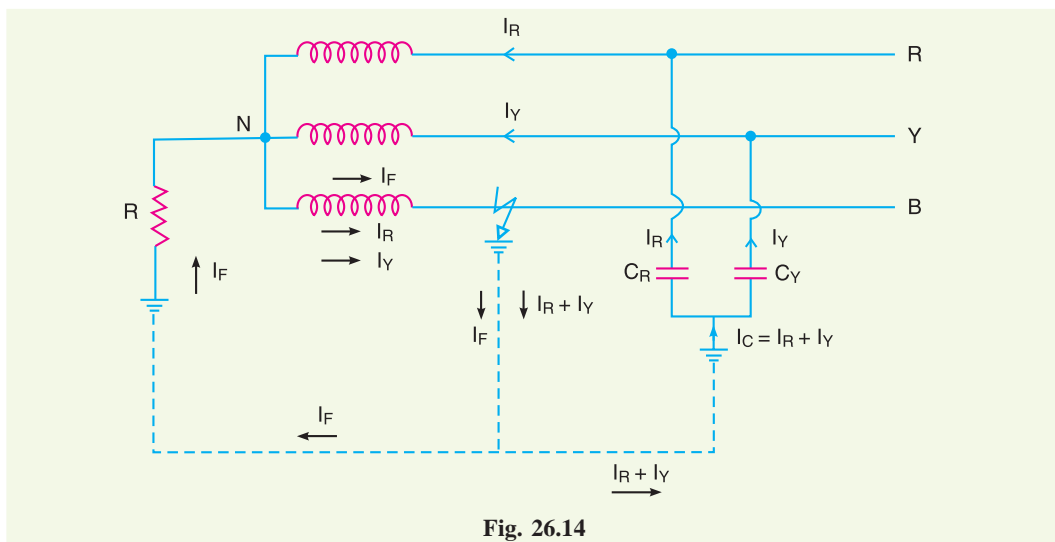

Fig. 26.14
- (i) By adjusting the value of R , the arcing grounds can be minimised. Suppose earth fault occurs in phase B as shown in Fig. 26.14. The capacitive currents I_R and I_Y flow in the healthy phases R and Y respectively. The fault current I_F lags behind the phase voltage of the faulted phase by a certain angle depending upon the earthing resistance R and the reactance of the system upto the point of fault. The fault current I_F can be resolved into two components *viz.*